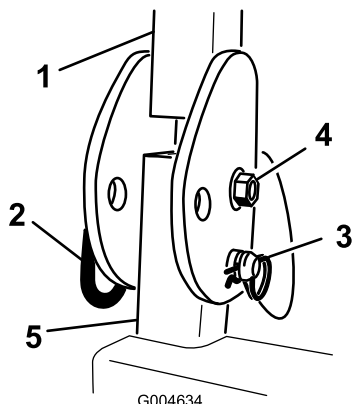

Figure 13
11. Position the ROPS assembly onto the ROPS posts. Install the bolt, nut, hair pin cotter and pin securing each ROPS assembly to the ROPS posts (Figure 13).